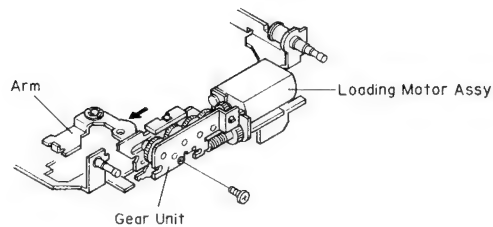

Fig. 13
10. Turn the Loading gear to put into the ejection. (Fig. 13)
11. Remove one of the screws and remove the gear unit pressing the arm slightly toward the arrow. (Fig. 13)